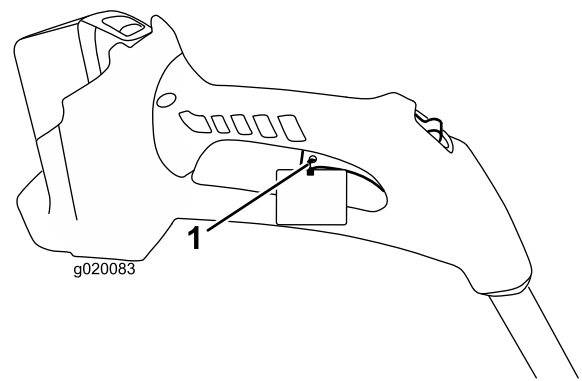

Figure 3
2. Cut the cable tie and remove it from the trigger handle (Figure 3).